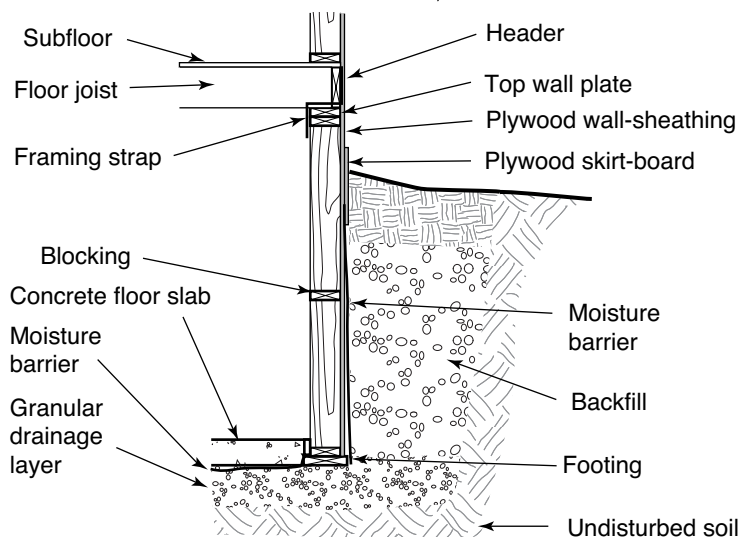

FIGURE 49
- ◆ Provide blocking for horizontal plywood joints (see Figure 49).